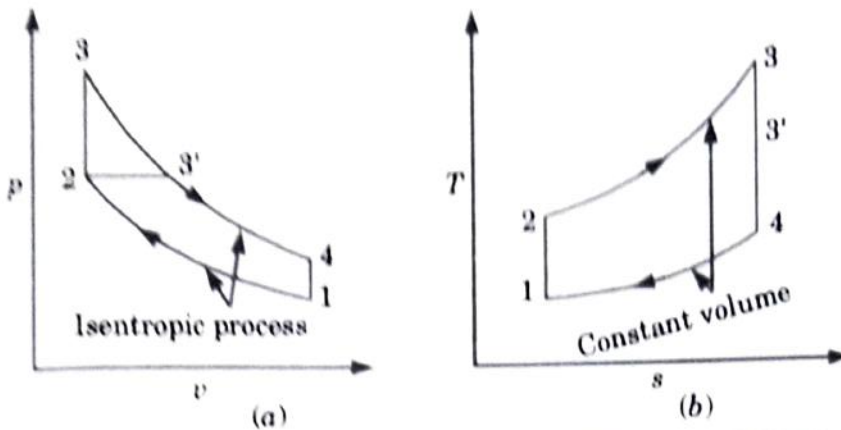

Fig. 1.19.2. Same compression ratio and heat rejection.
1. In Fig. 1.19.2, Otto and diesel cycle are shown. Efficiency of both the cycle is given as,